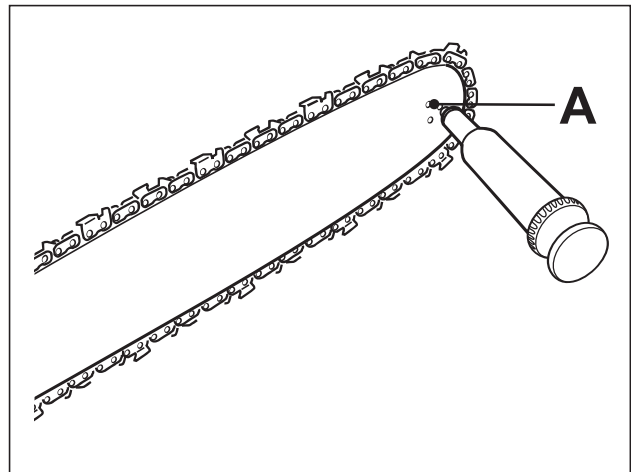

Fig. 31
2. Using a disposable lube gun, insert the needle nose into the lubrication hole and inject grease until it appears at the outside edge of the sprocket(Fig.31).